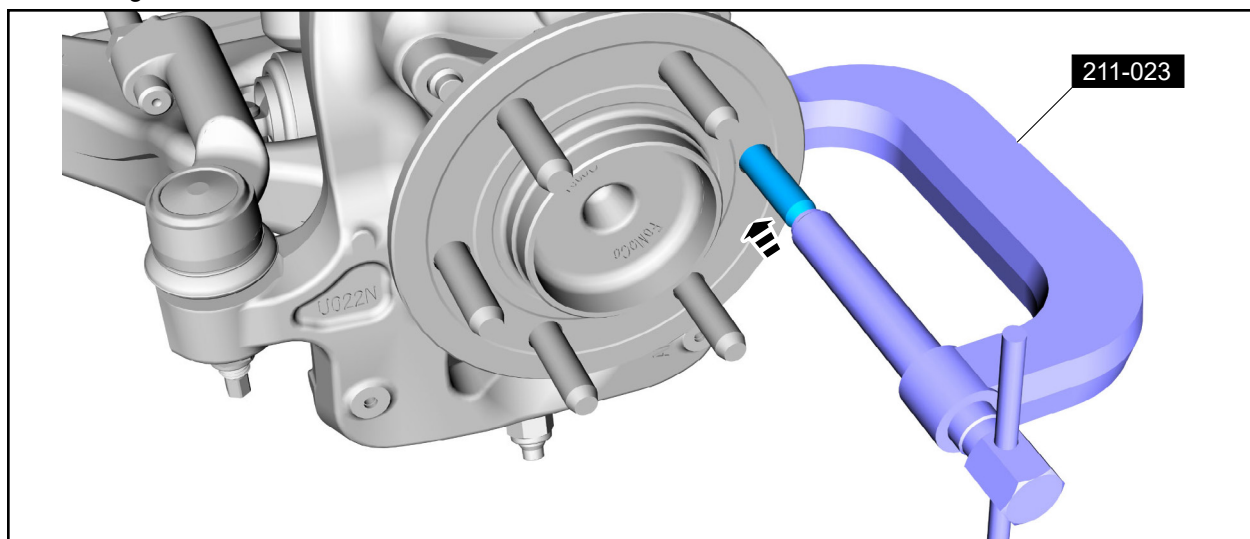

FIGURE 1
13. Press the wheel stud(s) from the hub flange. Use Special Service Tool: 211-023 C-Frame and Screw. See Figure 1.